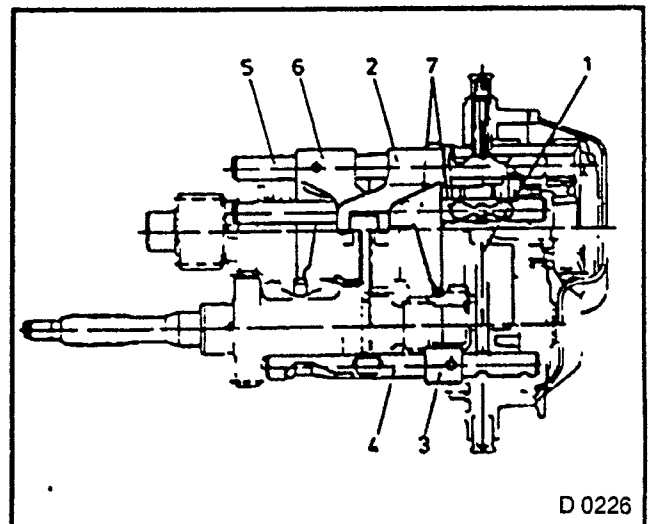

Fig. 180
2. Locking pin for gear stop in end shield bore (point 1 on assembly in Fig. 180)
See assembly (Fig. 180) in this operation.
1. Insert and pin together reverse gear shift rod (Item 4, Fig. 180).